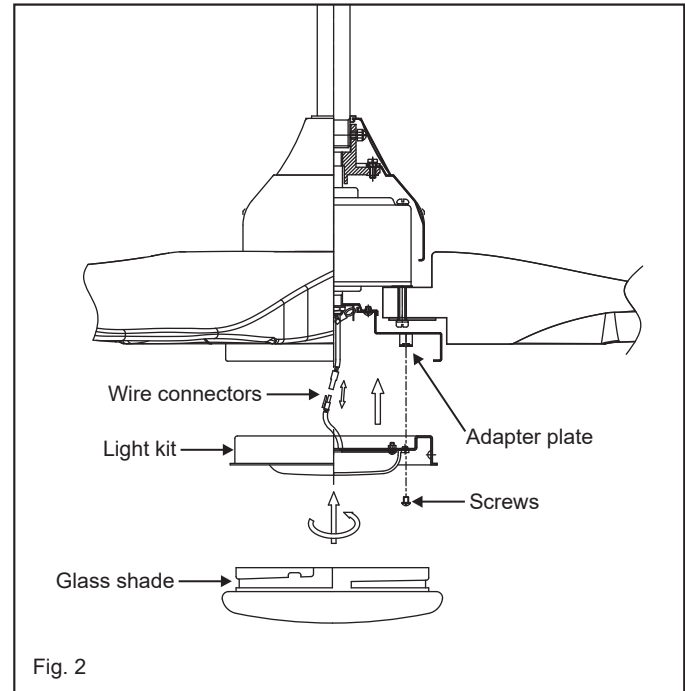

Fig. 2
- 3 Remove one of the three screws on the adapter plate located on the fan motor. Loosen the other 2 screws. (Do not remove) (Fig. 2)
- 4 While holding the LED light kit under your fan, make the polarized plug connections: (Fig. 2)